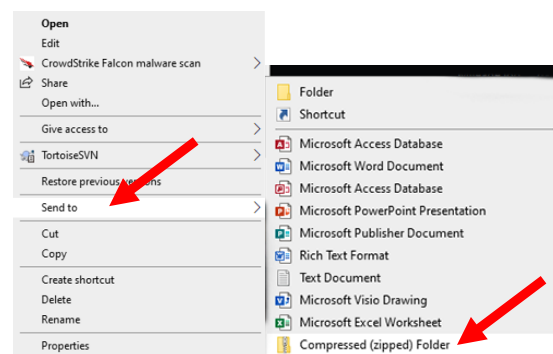

Figure 30
- Right click on the fryer.conf file on the desktop (see Figure 30).